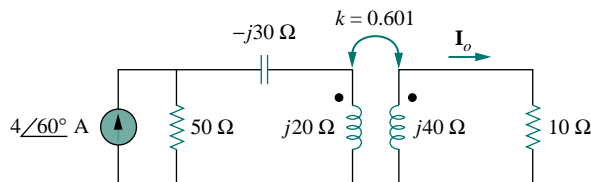

Figure 13.89 For Prob. 13.19.
- 13.19** Find \mathbf{I}_o in the circuit of Fig. 13.89. Switch the dot on the winding on the right and calculate \mathbf{I}_o again.